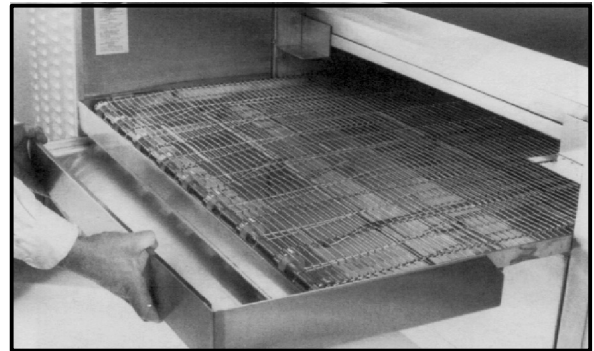

Figure 11
1. Install the crumb pans under each end of the conveyor as shown in Figure 11.